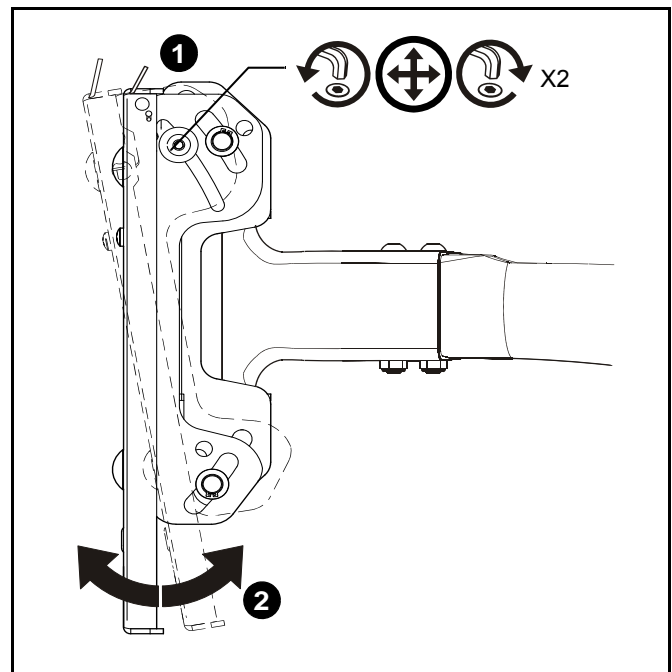

Figure 12
1. With display installed, tighten or loosen two screws, one on each side, using the 5/32" hex wrench. (See Figure 12)